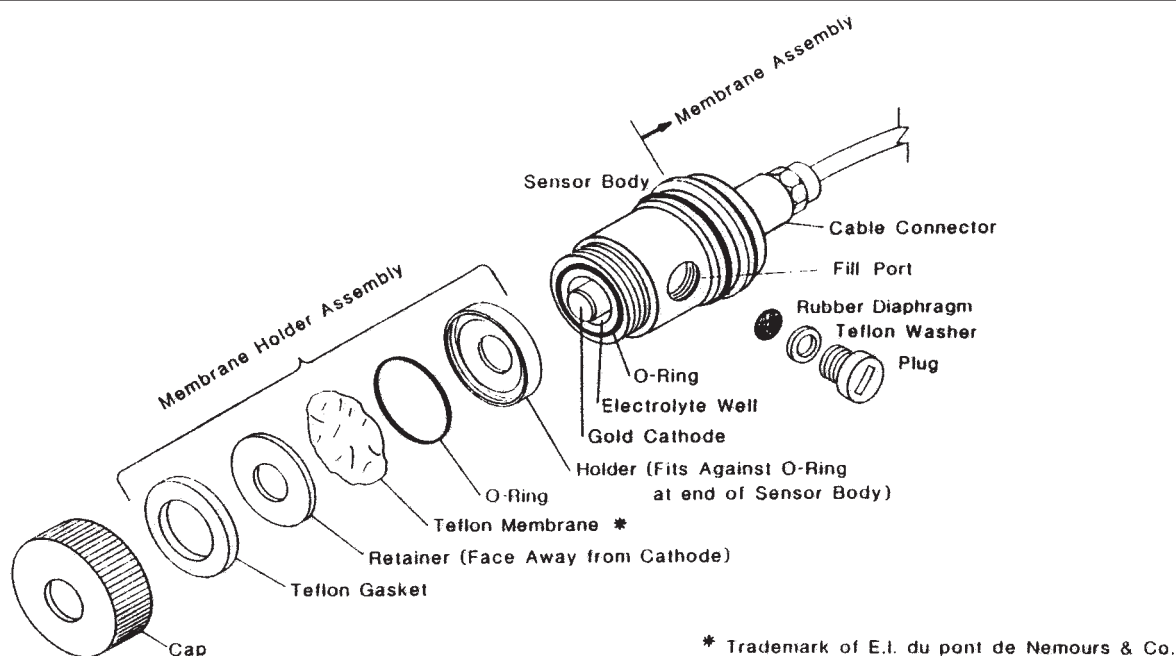

Figure 8-2. Exploded View of Sensor/Membrane Assembly
1. Unscrew the knurled cap from end of sensor body. Remove membrane assembly, consisting of Teflon membrane fixed between holder and retainer (see Figure 8-2). Empty all the electrolyte from sensor and flush with distilled or deionized water to remove all particulate matter.
5. Verify that the O-ring is properly positioned in the associated groove in the holder (see Figure 8-2).
6. Holding a single Teflon membrane, by the edges only, place it across the membrane holder; then, snap the retainer into the membrane holder (see Figure 8-2). The membrane is now fixed in the proper position, between the holder and retainer.
8. Disconnect the sensor body from the cable and set on flat surface, with the gold cathode facing upward. Verify that the O-ring is in the groove at the end of sensor body is properly positioned around gold cathode (see Figure 8-2).